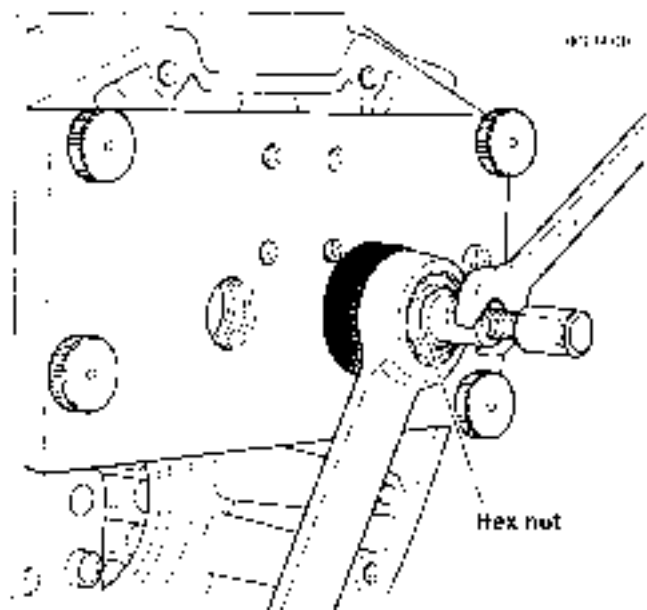

Figure 3-145. Turn Hex Nut Clockwise to Remove Bearing
11. See Figure 3-145. Using a 15/16 in. open end wrench turn hex nut in a clockwise direction until bearing is free. If necessary, hold flat on collet to prevent rotation.